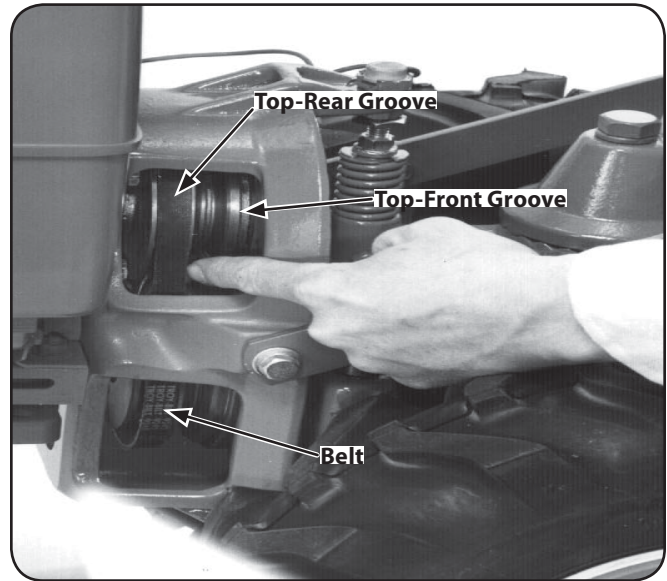

Figure 4-8
5. Working from the left side of the tiller, work the belt as much as possible onto the top-front engine pulley groove. See Fig. 4-8.